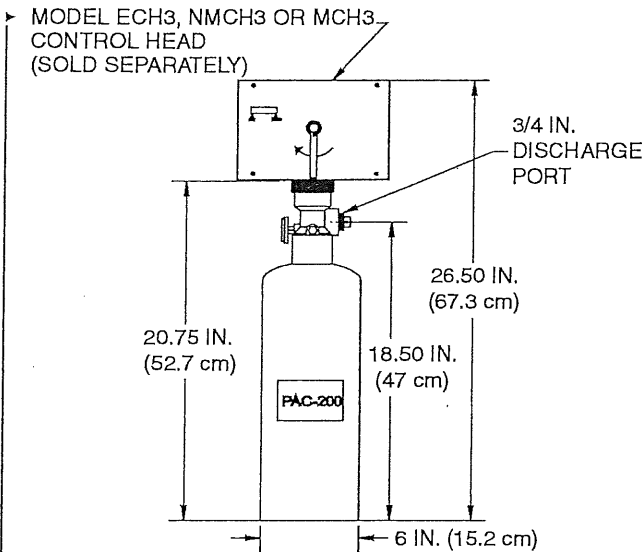

Figure 2-9. Model PAC-200 Pneumatic Actuating Cylinder.
The Model PAC-200 is a pneumatic actuating cylinder that can actuate a maximum of twenty (20) agent cylinders simultaneously. The Model PAC-200 includes a DOT 4BA350 cylinder pressurized with dry nitrogen to 350 PSIG @ 70° F., a brass valve with pressure gauge, and a wall mounting bracket. A Model MCH3, NMCH3 or ECH3 control head must be purchased separately and connected to the PAC-200 to open the valve. See Figure 2-9.